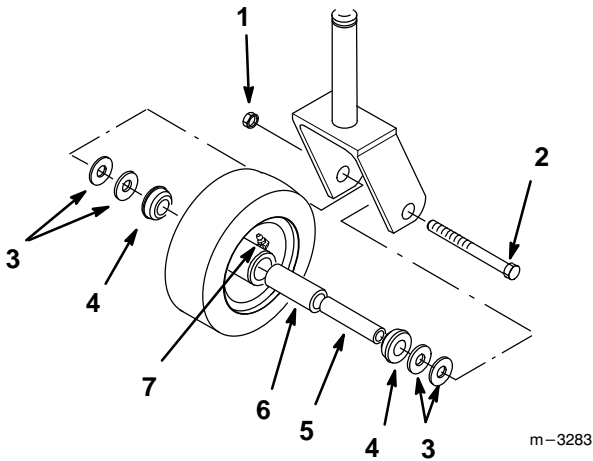

Figure 35
1. Remove the locknut and wheel bolt holding the castor wheel to the castor fork (Fig. 35).
2. Remove the washer and bushing, then pull the spanner bushing and roller bearing out of the wheel hub (Fig. 35).
3. Remove the other bushing from the wheel hub and clean any grease and dirt from the wheel hub (Fig. 35).
4. Inspect the roller bearing, bushings, spanner bushing and inside of the wheel hub for wear. Replace any defective or worn parts (Fig. 35).
5. To assemble, place one (1) bushing into the wheel hub. Grease the roller bearing and spanner bushing and slide them into the wheel hub. Place the second bushing into the wheel hub (Fig. 35).
6. Install the castor wheel into the castor fork and secure with the wheel bolt and locknut. Tighten the locknut until the spanner bushing bottoms against the inside of the castor forks (Fig. 35).